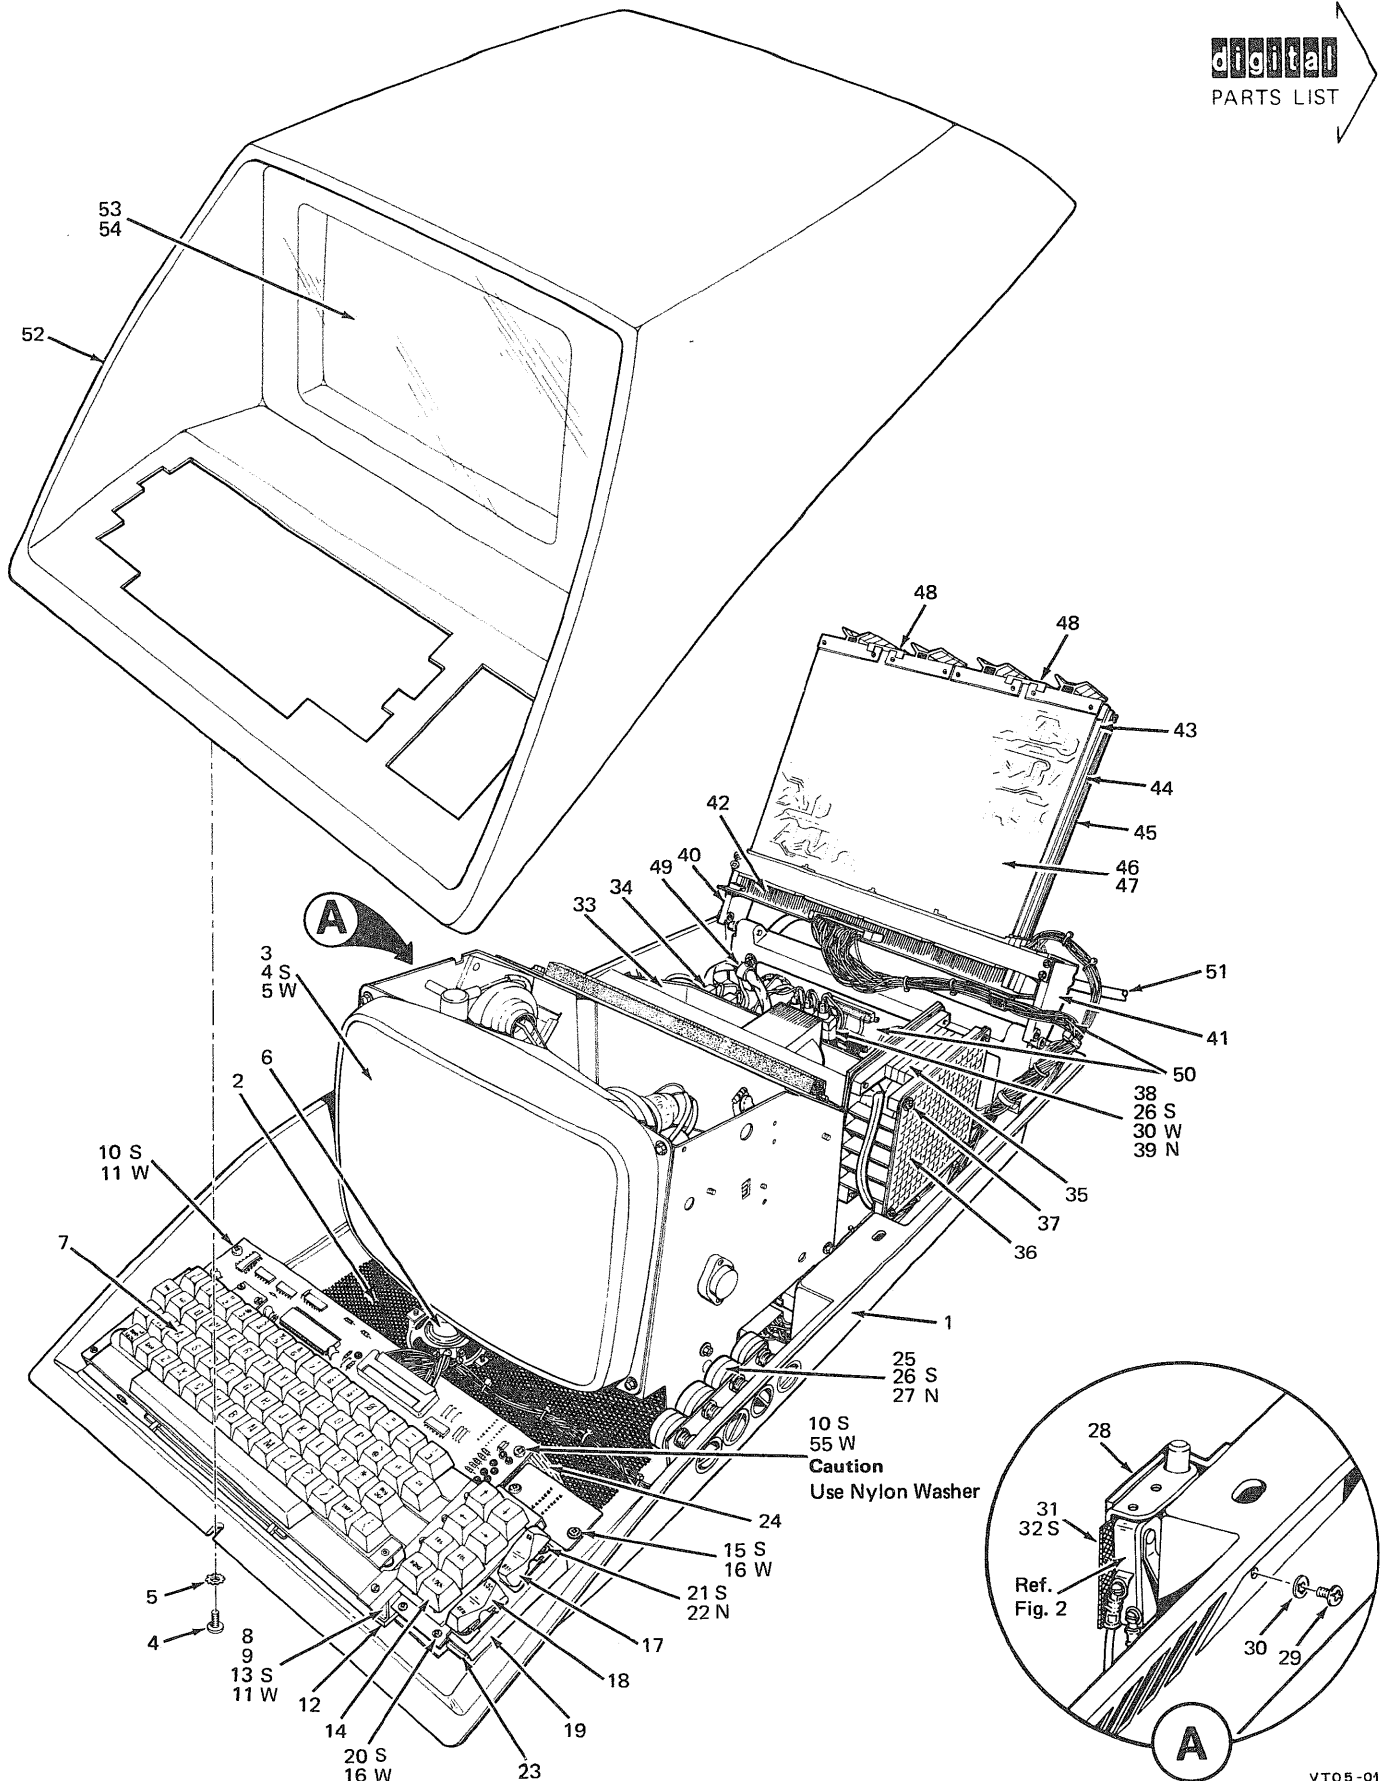

Figure 1. VT05 Alphanumeric Display Terminal
**Used On Code** — Letters in this column correspond to the variation codes assigned in Figure 1. Parts with an Alpha notation(s) are used only in those option variations. A blank indicates that the part is used on all option variations.